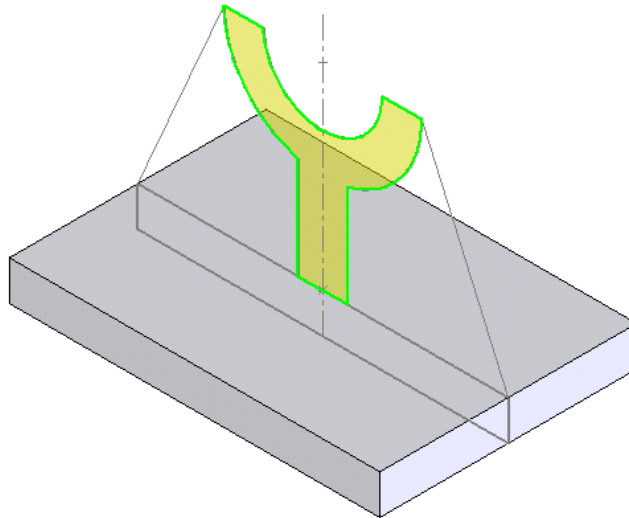

Figure 5-73 Middle contour is selected using the contour selection tool
- c. Select the second set of contour and extrude it to the required distance, refer to Figures 5-73 and 5-74.
The selected middle contour is shown in Figure 5-73.